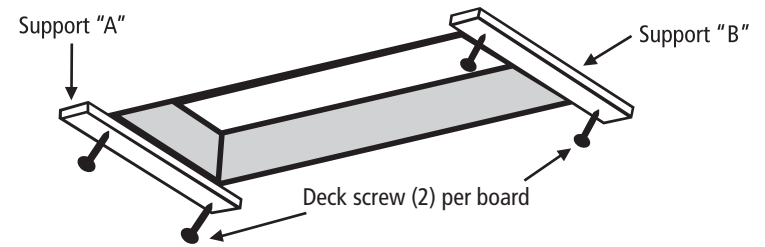
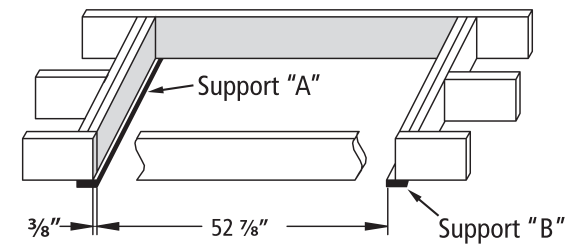

FIGURE 4: View from below
FIGURE 5: View from above
A. Attach temporary supports "A" and "B" with 2 1/2" deck screws as shown in Figure 4. Support "A" should be located at the end where the door hinge of the ladder will go. The edge of support "A" should extend into the rough opening 3/8" as shown in Figure 5. Make sure both screws penetrate header above ceiling.
B. Measuring from the inside edge of support "A", locate and secure the inside edge of support "B" 52 7/8" from inside edge of support "A" (Figure 5). Make sure both screws penetrate header above ceiling.
A. Attach temporary supports “A” and “B” with 2 ½” deck screws as shown in Figure 4.
Support “A” should be located at the end where the door hinge of the ladder will go. The edge of support “A” should extend into the rough opening $\frac{3}{8}$ ” as shown in Figure 5. Make sure both screws penetrate header above ceiling.
B. Measuring from the inside edge of support “A”, locate and secure the inside edge of support “B” from inside edge of support “A” (Figure 5). Make sure both screws penetrate header above ceiling.
A. Attach temporary supports "A" and "B" with 2 1/2" deck screws as shown in Figure 4.
Support "A" should be located at the end where the door hinge of the ladder will go. The edge of support "A" should extend into the rough opening 3/8" as shown in Figure 5. Make sure both screws
B. Measuring from the inside edge of support "A", locate and secure the inside edge of support "B" from inside edge of support "A" (Figure 5). Make sure both screws penetrate header above ceiling.
A. Attach temporary supports "A" and "B" with 2 1/2" deck screws as shown in Figure 4. Support "A" should be located at the end where the door hinge of the ladder will go. The edge of support "A" should extend into the rough opening 3/8" as shown in Figure 5. Make
"B" from inside edge of support "A" (Figure 5). Make sure both screws penetrate header above ceiling.
Support “A” should be located at the end where the door hinge of the ladder will go. The edge of support “A” should extend into the rough opening ¾” as shown in Figure 5. Make sure both screws penetrate header above ceiling.